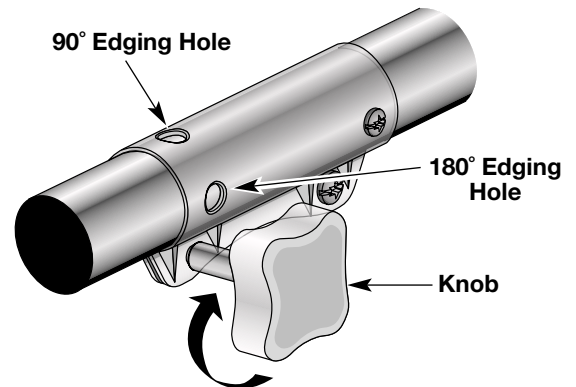

Fig. 12
3. Turn the knob clockwise to tighten (Fig. 12).
For edging when using the line head cutting attachment with Click-Link® models, lock the release button of the cutting attachment into the **90° edging hole** or the **180° edging hole** (Fig. 12). The edger add-on should be installed with the release button in the **primary hole**.